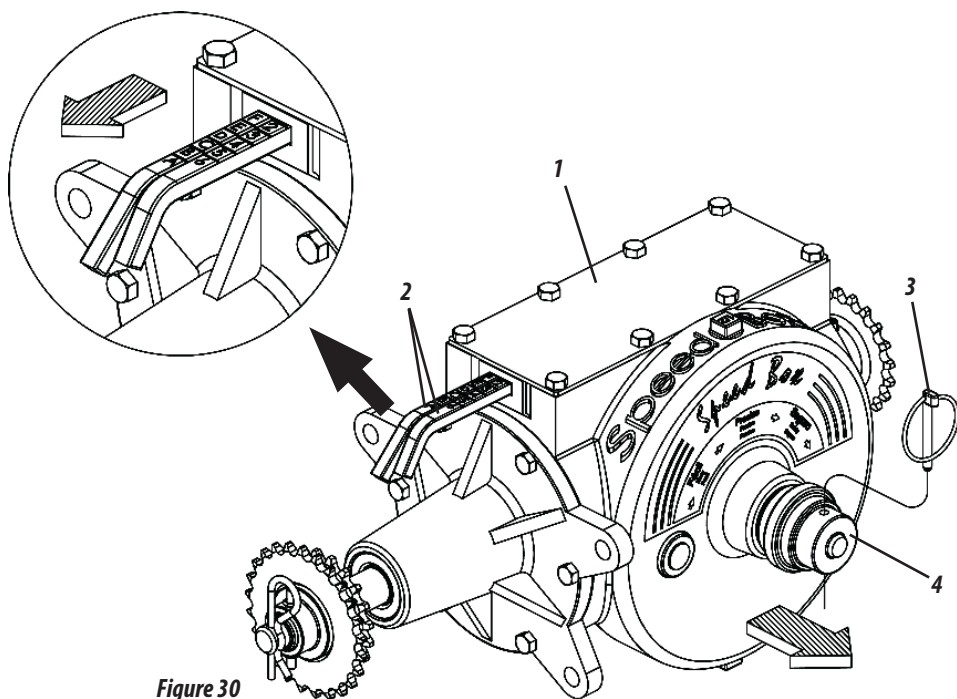

Figure 30
- Seed drills are equipped with the Speed Box system (1), which triggers the distribution system with simple settings, ensuring quick exchange of rotations. To calibrate the seeds, proceed as follows:
37 - Select the desired amount of seeds in the tables and check the corresponding combination in the levers (2). Example: Position F2 in the table indicates that the lever with letters must be in position "F" and the lever with numbers must be in position "2", as shown in Figure 30.